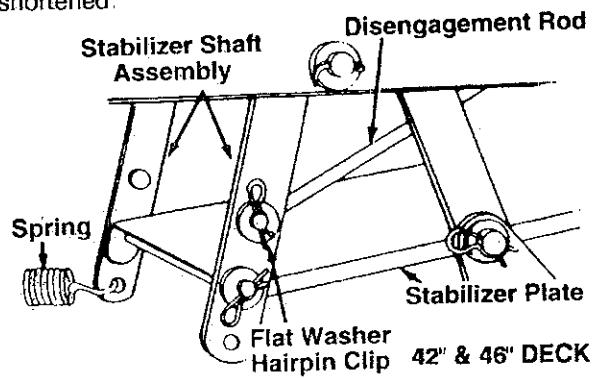
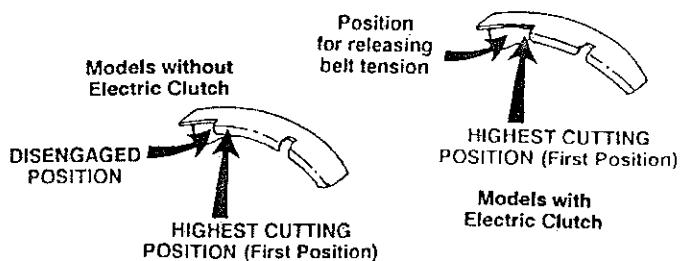

FIGURE 15
FIGURE 19
With the engine off, engage the lift lever (all the way forward) and turn deck height adjustment knob to the highest cutting position. Remove the cotter pin and flat washer which secure the disengagement rod to the stabilizer shaft assembly. See figure 15. Shorten the rod by threading it in until the ferrule is against the back of the slot in the lift shaft assembly, and the rod lines up with the hole in the stabilizer shaft. For more belt tension the disengagement rod must be lengthened. To decrease belt tension the disengagement rod must be shortened.
1. Use the lift lever to raise the deck, pulling lever back as far as possible to release tension on belt. See figure 19.
4. Place the lift lever in the highest position, see figure 19. Remove the cotter pin and flat washer which secure the disengagement rod to the stabilizer shaft assembly. See figure 15. Shorten the rod by threading it in until the ferrule (see reference number 73, page 22) is against the back of the slot in the lift shaft assembly, and the rod lines up with the hole in the stabilizer shaft.